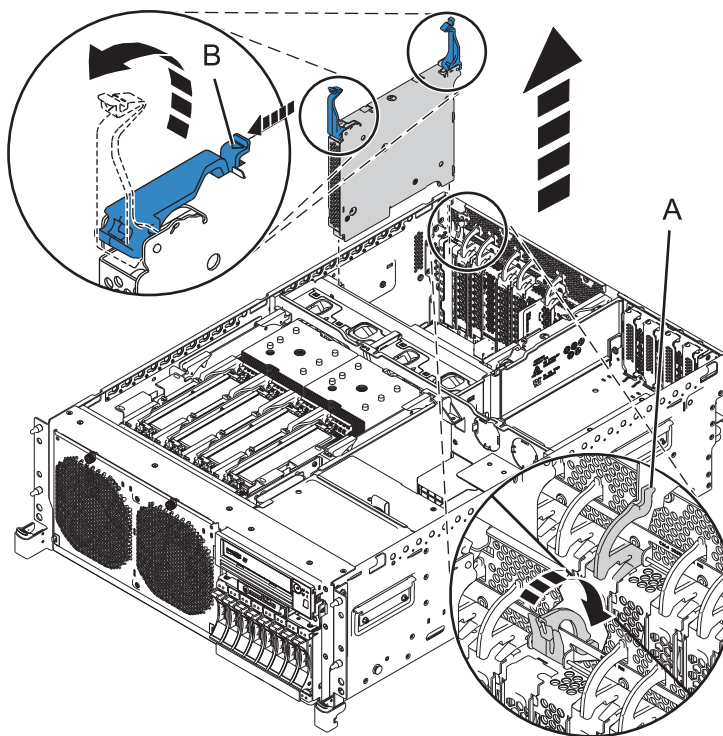

Figure 6. Adapter removal from a rack-mounted system
14. With the system in the service position, remove the existing adapter assembly as shown in Figure 6. Unlock the latch above the adapter slot **(A)** by pulling the latch toward the back of the system.